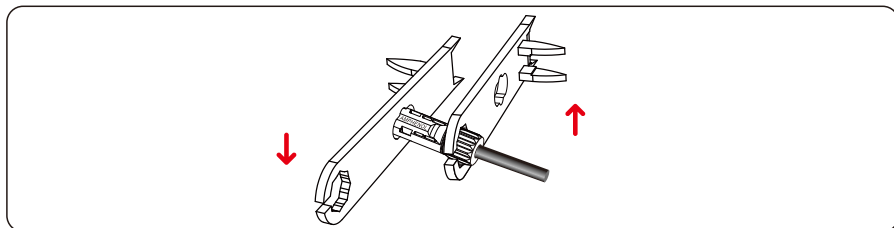

Figure 5.14 Locking connectors
Step 4 Tighten the locking nuts on the positive and negative connectors by using a removal wrench, as shown in Figure 5.14.